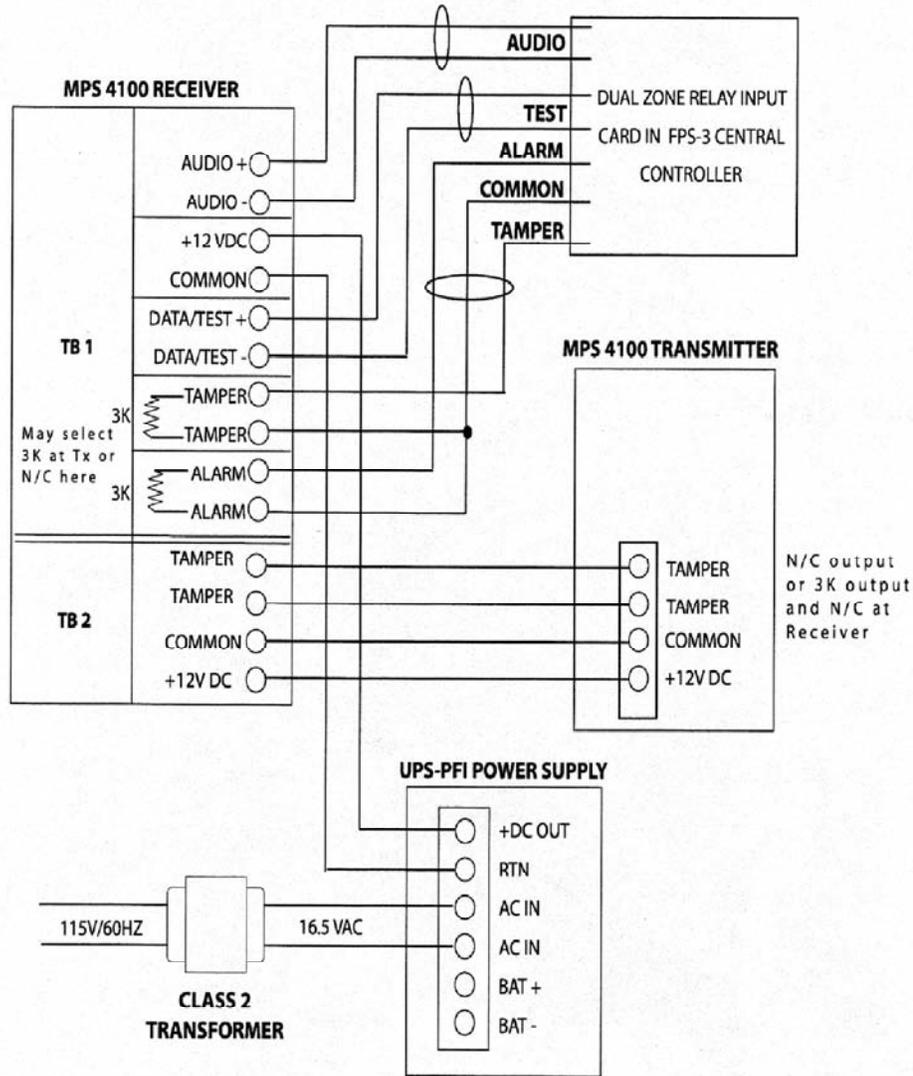

Figure 15. MPS Connections to FPS-3 via Dual Zone Relay Input Card
- Run interconnecting cables and connect as shown in Figure 15.